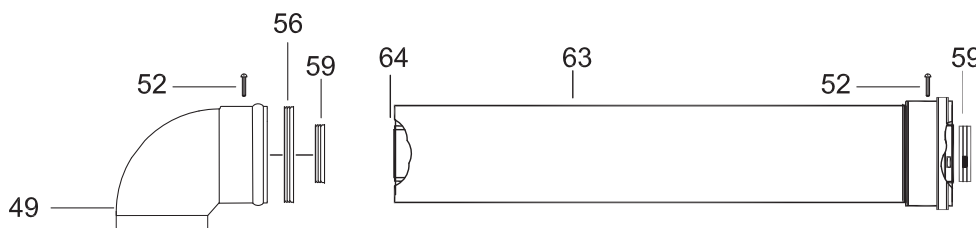

Fig.17
Important: Make sure that the inner 60mm diameter of the elbow header is inserted fully into the flue manifold, and the flue manifold rubber seal is correctly fitted. (Fig 17 item 65)
Measure the distance between the flue bends or the flue/terminal assembly. The measurements should be taken from the outer edge of the flue and bend (fig. 17).
This part of the installation manual covers the installation and fixing instructions of the twin flue eccentric flue duct systems only. When ordering twin flue it must be stated for LS 24 range. Typical installation procedures are illustrated by drawings. Remove the front panel of the case (sect.8.1). Unscrew the screw (item 66 fig. 17) on the flue adaptor.